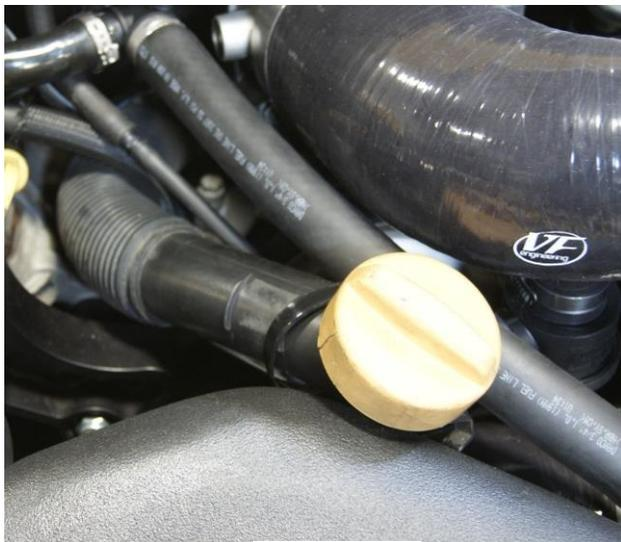

Figure 43
- Use a zip tie to secure the oil filler tube and crankcase vent hose to the bypass valve port on the long intake tube (figure 43).